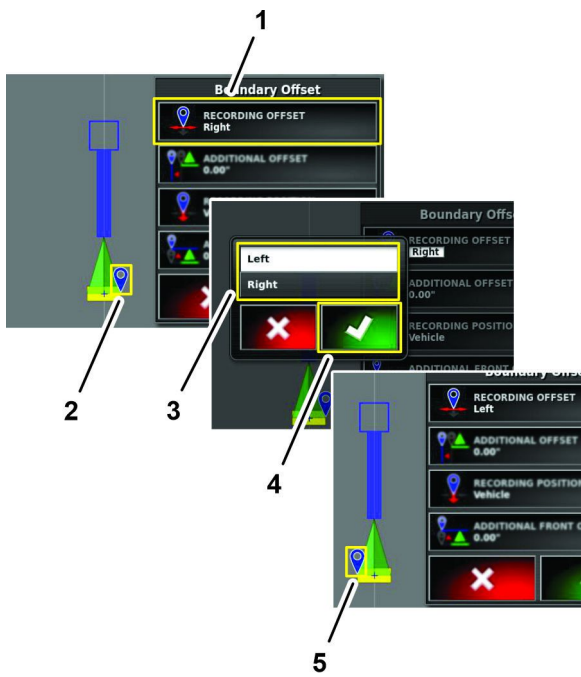

Figure 198
1. Press the RECORDING OFFSET icon (Figure 198).
2. In the dialog box, press the LEFT icon or the RIGHT icon, and press the confirm icon (Figure 198).